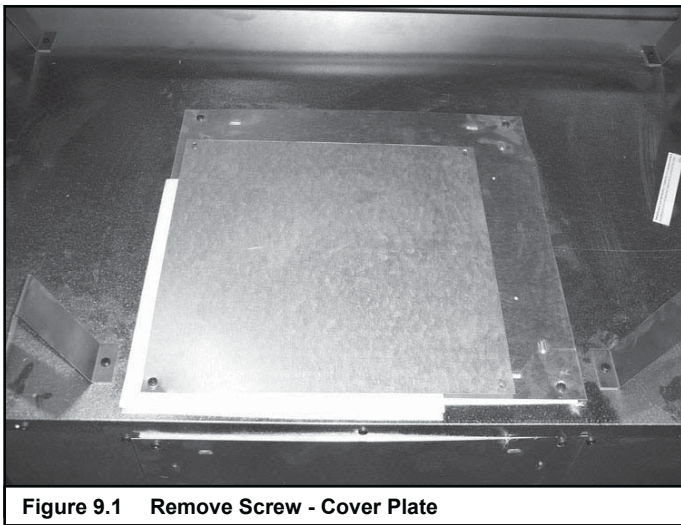

Figure 9.1 Remove Screw - Cover Plate
- Remove the screw holding heat shield cover plate and gasket to top of appliance (Figure 9.1). Set cover plate aside.